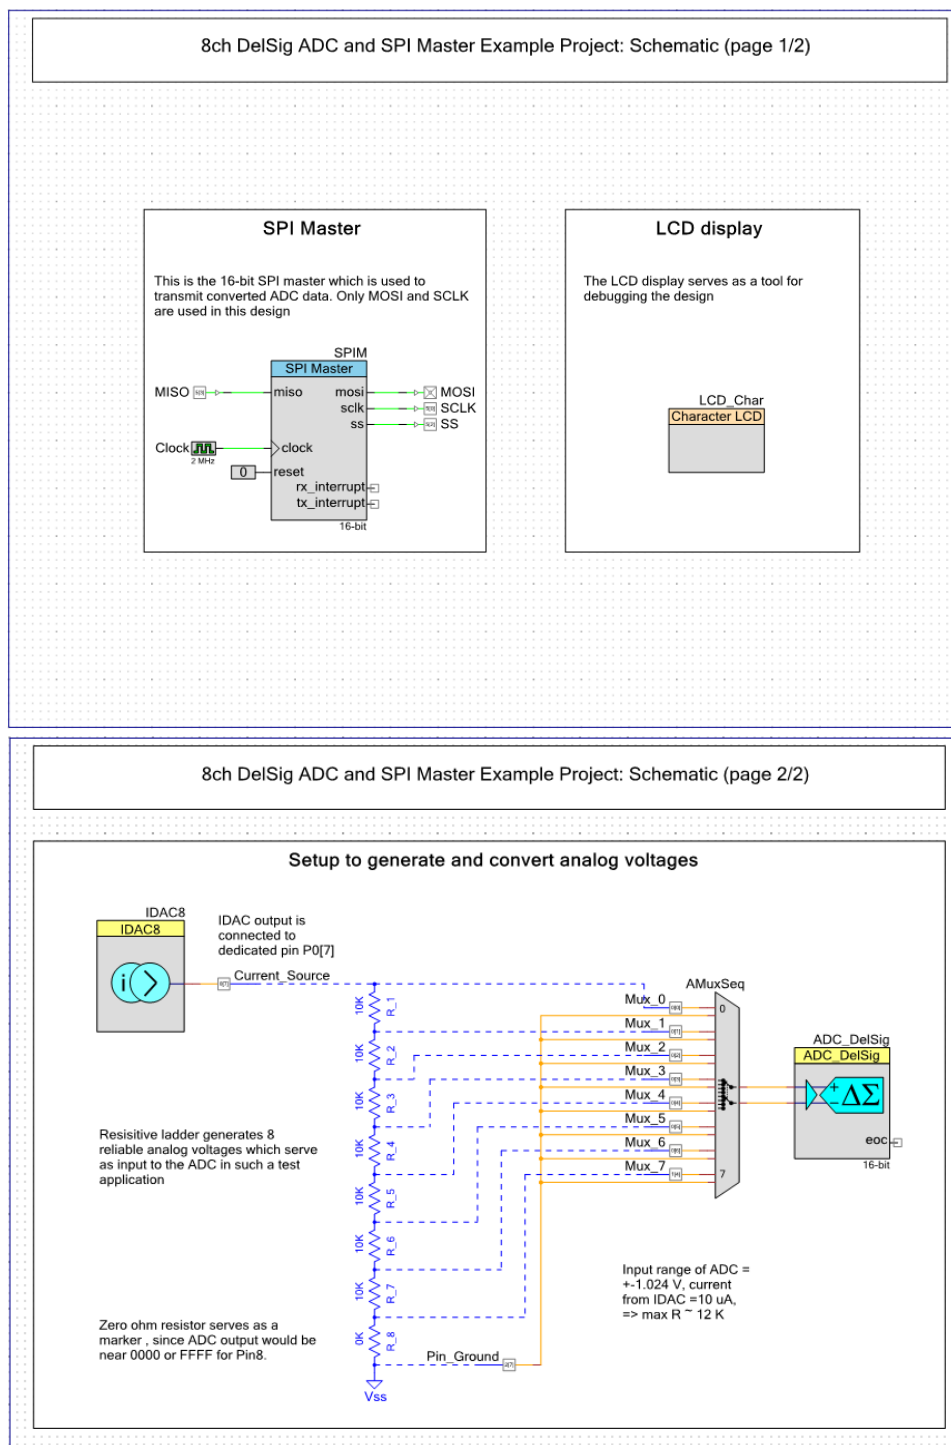

Figure 1. Top design schematic
2. In order to generate different voltages to test the Example Project, set up a resistor ladder on the breadboard available on the PSoC DVK (See Figure 1). Use 7 resistors of 10k ohm in series, followed by a 0 ohm resistor or jumper wire to ground. Starting from the top of the first 10k resistor tap each point of the resistive ladder to P0[0] to P0[6]. The zero-ohm resistor tap is sent to P1[4], and P2[7] is also connected to ground. Finally, connect the current output of the IDAC – from P0[7] to the top of the resistor ladder – P0[0]. Ensure that the LCD is connected to the LCD header P18 on the development kit.
The top design schematic is shown in Figure 1 above.